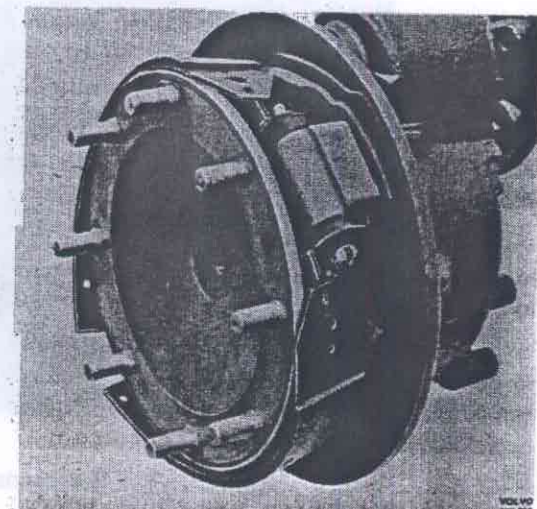

Fig. 51-12. Fitting the brake shoes
2. Fit the shoes on the inside of the king pin, see Fig. 51-12. Hook on the upper return spring with flat pliers.